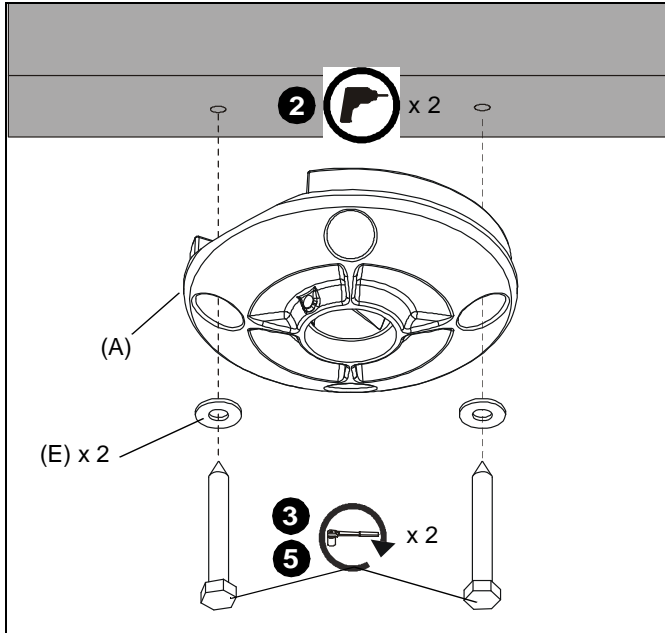

Figure 2
- Drill 1/4" diameter pilot holes into wood joist (See Figure 2). Ensure pilot holes are straight.
- Using 9/16" socket wrench, loosely install two (minimum) Grade 2 (not included) 3/8" x 2-1/2" lag screws through 3/8" washers (E), ceiling plate (A), into wood joist (See Figure 2). Do not tighten plate (A) against ceiling at this time to accommodate cable installation.
- Tighten lag screws (See Figure 2).